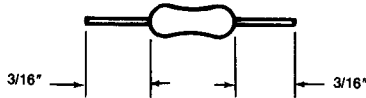

Fig. B-3. Preparation, step 3.
3. Prepare resistor as shown in Fig. B-3: